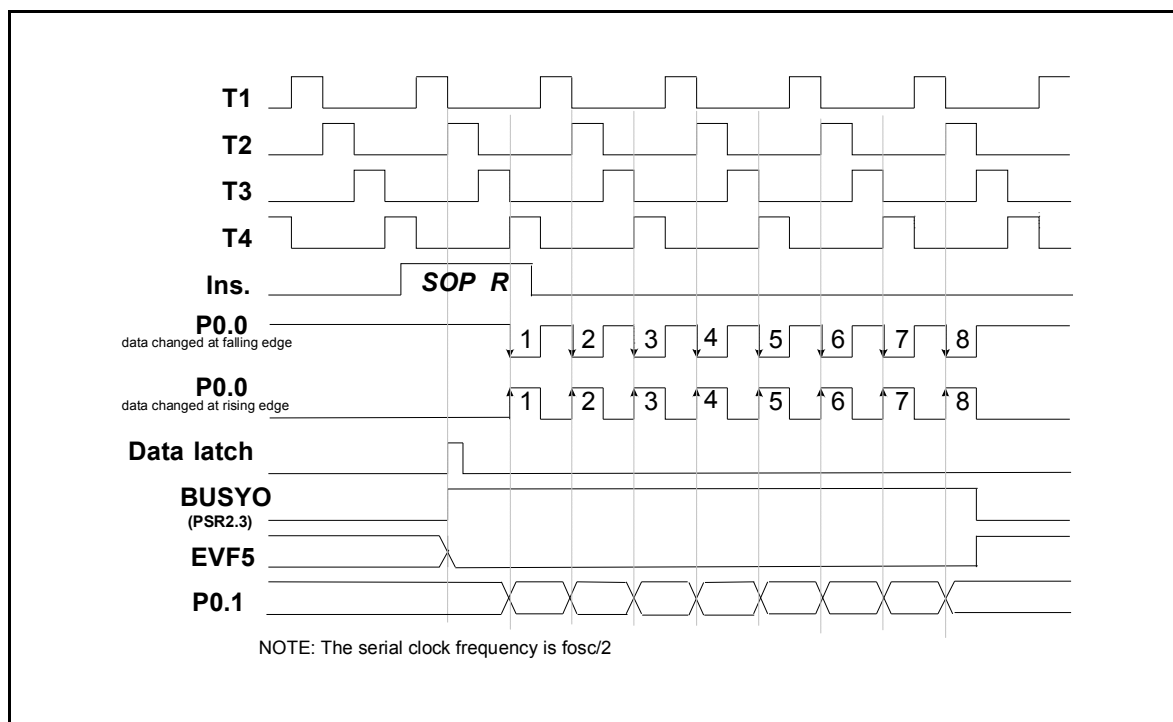

Figure 5-13 Timing of the Serial Output Function (SOP R)
- (2) When the **SOP R** instruction is executed, the data will be loaded to the serial output buffer (SOB) from ACC and the RAM, the low nibble data of SOB is from ACC register and the high nibble data is from RAM, and bit 3 of port status register 2(PSR2) will be set to "1" ( $BUSY_O = 1$ ). Then the P0.0 pin will send out 8 clocks or accept 8 clocks from external device and the data in SOB will be sent out at the rising or falling edge of the P0.1 pin. After the 8 clocks have been sent,  $BUSY_O$  will be reset to "0" and EVF.5 will be set to "1." At this time, if IEF.5 has been set ( $IEF.5 = 1$ ), an interrupt is executed; if HEF.5 has been set ( $HEF.5 = 1$ ), the hold state is terminated. Users can check the status of PSR2.3 ( $BUSY_O$ ) to know whether the serial output process is completed or not. If a serial output process is not completed, but the SOP R instruction is executed again, the data will be lost. The timing is shown in Figure 5-13.